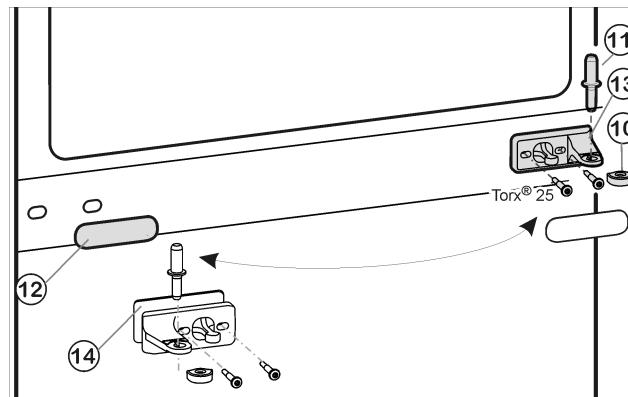
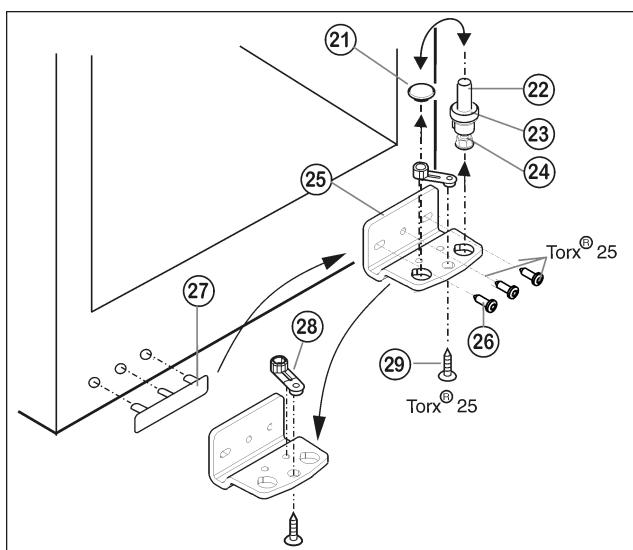

Fig. 6
Fig. 7
- Remove the center bearing pin Fig. 6 (11) from the bearing bracket and the lower door.
- Remove the plastic cap Fig. 6 (10).
- Unscrew the middle bearing bracket Fig. 6 (13) (2 Torx® 25 screws).
- Carefully remove the cover trim Fig. 6 (12).
- Screw the middle bearing bracket Fig. 6 (13) with the supporting plate Fig. 6 (14) turned 180° onto the new hinge side (**4 Nm**).
- Turn the cover trim Fig. 6 (12) 180° and snap it back into place on the new handle side.
- ▶ Unscrew the bearing pin *Fig. 7* (22), including the washer *Fig. 7* (23) and adjustable foot *Fig. 7* (24), all the way and pull it out.
- ▶ Remove the plug *Fig. 7* (21).
- ▶ Unscrew the *Fig. 7* (25) bearing bracket *Fig. 7* (26).
- ▶ Unscrew *Fig. 7* (28) the bearing part *Fig. 7* (29) and swap it over to the opposite positioning hole; then screw it in place.
- ▶ Carefully lift off the cover on the handle side *Fig. 7* (27) and move it to the opposite side.
- ▶ Using a cordless screwdriver if necessary, secure the bearing bracket *Fig. 7* (25) **tightly (to 4 Nm)** on the new hinge side.
- ▶ Insert the plug *Fig. 7* (21) into the other hole.
- ▶ Insert the bearing pin *Fig. 7* (22), including the washer and adjustable foot, all the way. Make sure the detent lobe is pointing toward the back.
- ▶ Position the lower door from above onto the bearing pins below *Fig. 7* (22).
- ▶ Place the plastic cap *Fig. 6* (10) back onto the center bearing bracket *Fig. 6* (13).
- ▶ Insert the center bearing pin *Fig. 6* (11) on the new hinge side through the center bearing bracket *Fig. 6* (13) into the lower door.
- ▶ Place the upper door onto the center bearing pin *Fig. 6* (11).
- ▶ Align the doors flush with the appliance housing, using the two oblong holes in the lower bearing bracket *Fig. 7* (25) and in the center bearing bracket *Fig. 6* (13) as a guide, if needed. To do so, unscrew the center screw on the lower bearing bracket *Fig. 7* (25).